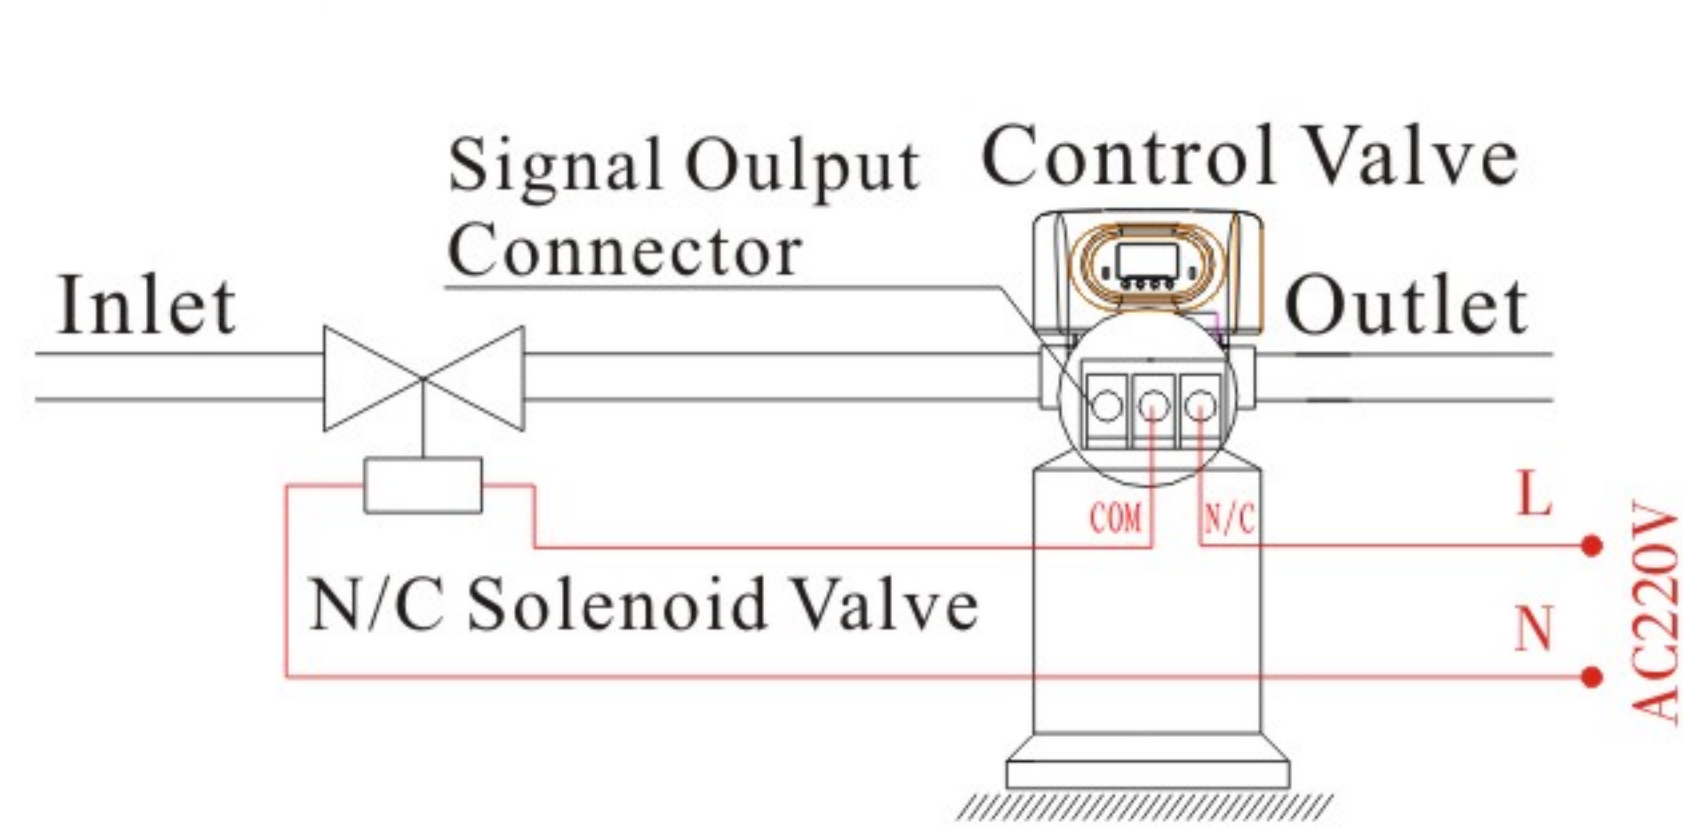

Figure 3-2 Wiring of Solenoid Valve on Inlet
② Solenoid Valve on Inlet (Set as b-02)
**Instruction:** When inlet pressure exceeds 0.6MPa, install a solenoid valve on inlet. Control mode is b-02. Pressure will be relieved when valve is switching, the wiring refers to Figure 3-2. As Figure 3-3 shows, it also can use the pressure relief connector to work.